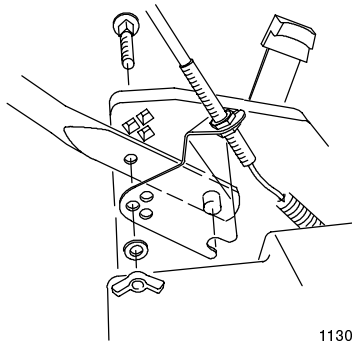

Figure 38
1. Remove the handle mounting hardware from the handle brackets (Fig. 38).